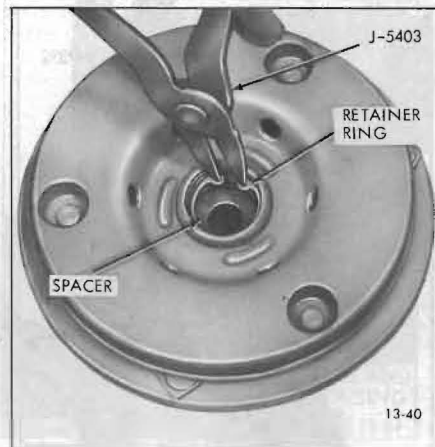

Figure 13-41—Removing or Installing Shaft Seal Seat Retainer Ring
5. Withdraw seal retainer and felt seal from inside neck of front head, then using No. 21 truarc pliers (J-5403) take out seal seat retainer ring (see Figure 13-41) from inside front head.
4. Using No. 21 truarc pliers (J-5403) reassemble seal seat retainer ring (flat side of retainer ring downward) into hub of front head and engage retainer ring in ring groove (see Figure 13-41). If necessary, retainer ring may be pushed into groove using sleeve portion of seal seat remover and installer (J-9393).